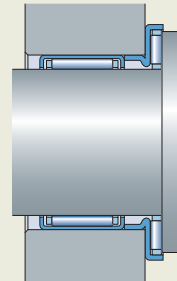

Fig. 14
- are used for applications where the shaft cannot be hardened and ground (**fig. 14**)